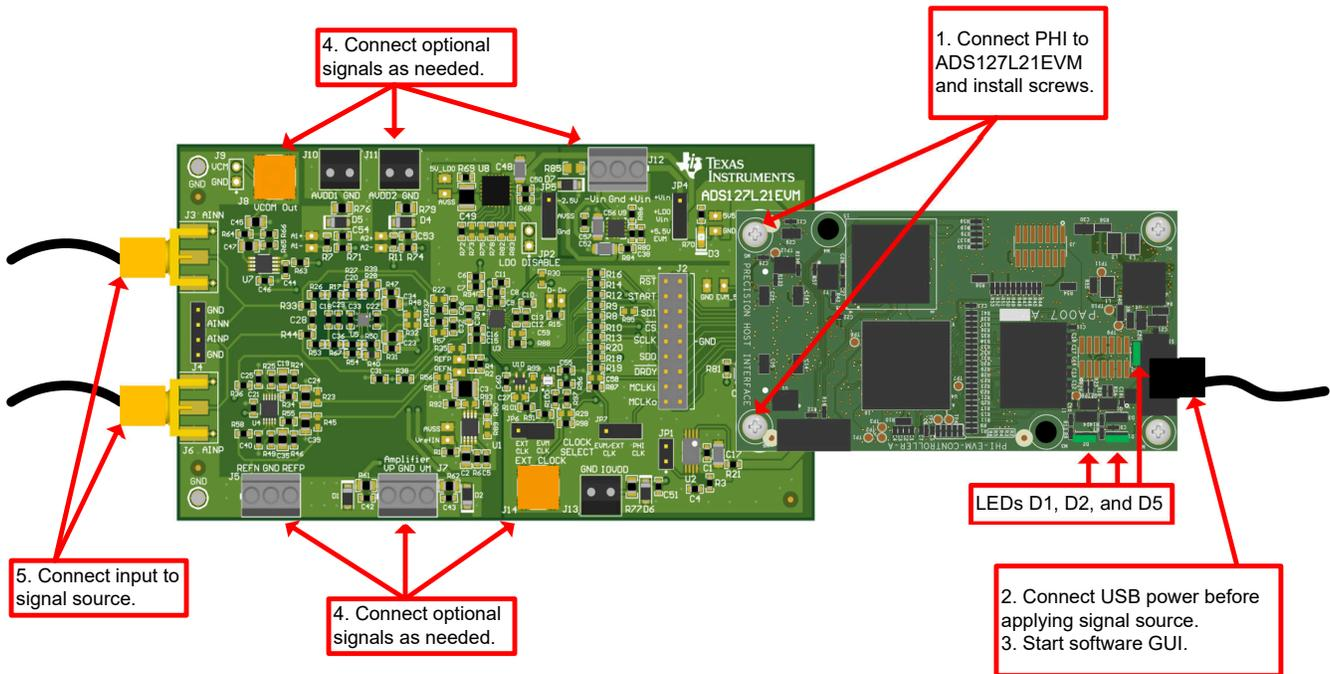

Figure 6-1. Connecting the Hardware to the ADS127L21EVM
Connect the EVM as shown in Figure 6-1 after installing the software:
- b. LEDs D1 and D2 on the PHI start blinking to indicate that the PHI is booted up and communicating with the PC; Figure 6-1 shows the resulting LED indicators.